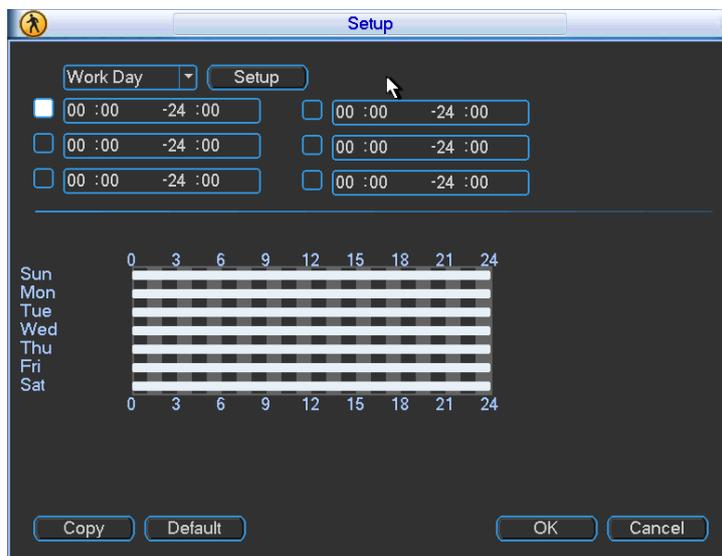
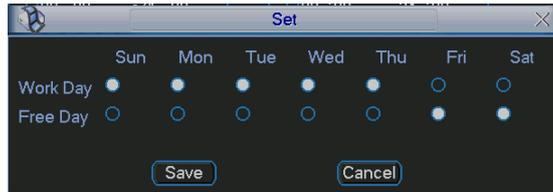

Figure 4-36
Figure 4-37
- Period: Click set button, you can see an interface is shown as in Figure 4-36. Here you can set for business day and non-business day. In Figure 4-36, click set button, you can see an interface is shown as in Figure 4-37. Here you can set your own setup for business day and non-business day.